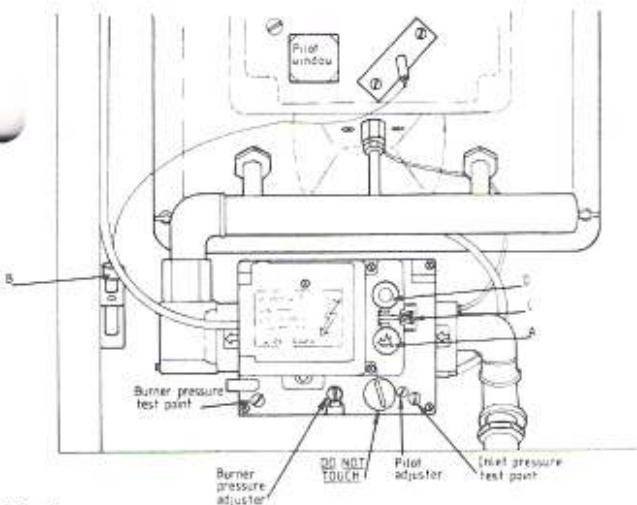

Fig. 5
10.1 Initial Lighting (see Fig. 5)
- (b) Check that the burner pressure is correctly set (see Technical Data). (Wait at least 30 seconds after the main burners have ignited before reading the burner pressure). If adjustment is necessary, remove the small grey plastic cap (see Fig. 5) to expose the pressure adjuster and turn the pressure adjuster (clockwise to increase) DO NOT touch the larger round grey plastic cap adjacent to the pressure adjuster cap as this is factory set and must not be interfered with. Replace the small grey plastic cap after adjustment.
- (c) Push down button 'A' (see Fig. 5) and release to extinguish the main burners.
Warning – The Propane gas supply to the heater must be externally regulated to give an **inlet** pressure to the gas control valve of 35mbar (14in.wg). Failure to regulate the Propane gas supply will result in severe damage to the gas control valve (see Fig. 5).